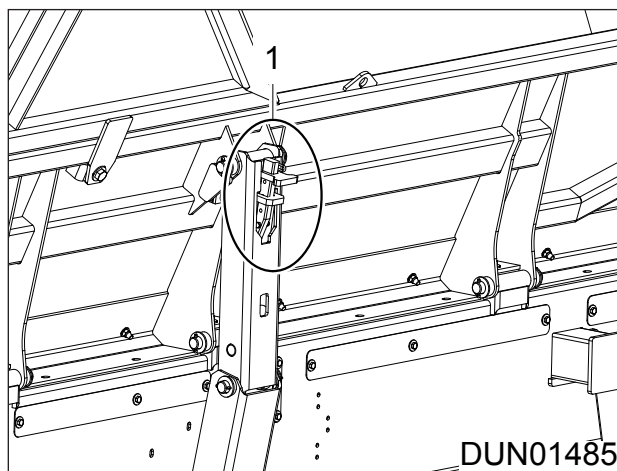

Figure 6.20 - Hopper Wedges
4. Insert the hopper wedges (Item 1; Ref. Figure 6.20) to secure the hopper sides in place.